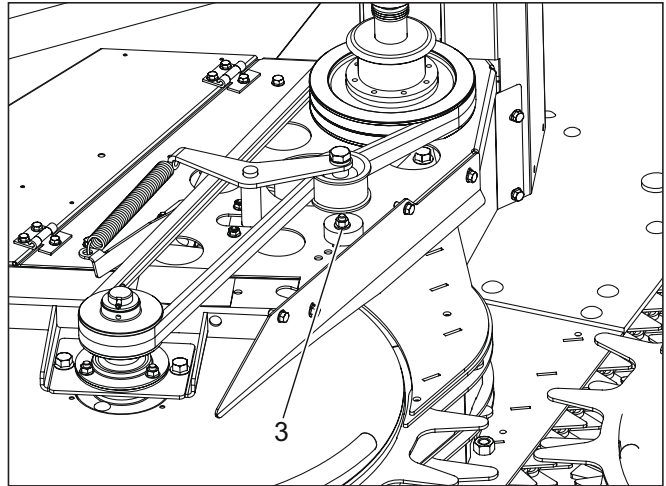
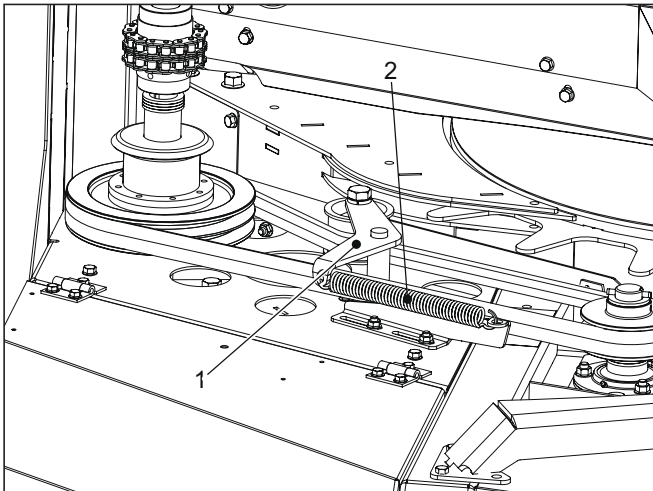

Figure 49
Figure 52 Belt tightener
DRIVE BELT REPLACEMENT - FIGURE 52
2. Unhook the spring (item 1 in figure 52).
3. Remove the tightener (item 2 in figure 52) if needed.
6. Readjust the tightener stopper - 1/16" to 1/8" (1.5 to 3 mm) between the stopper (item 3 in figure 49) and the tightener (item 2 in figure 52).